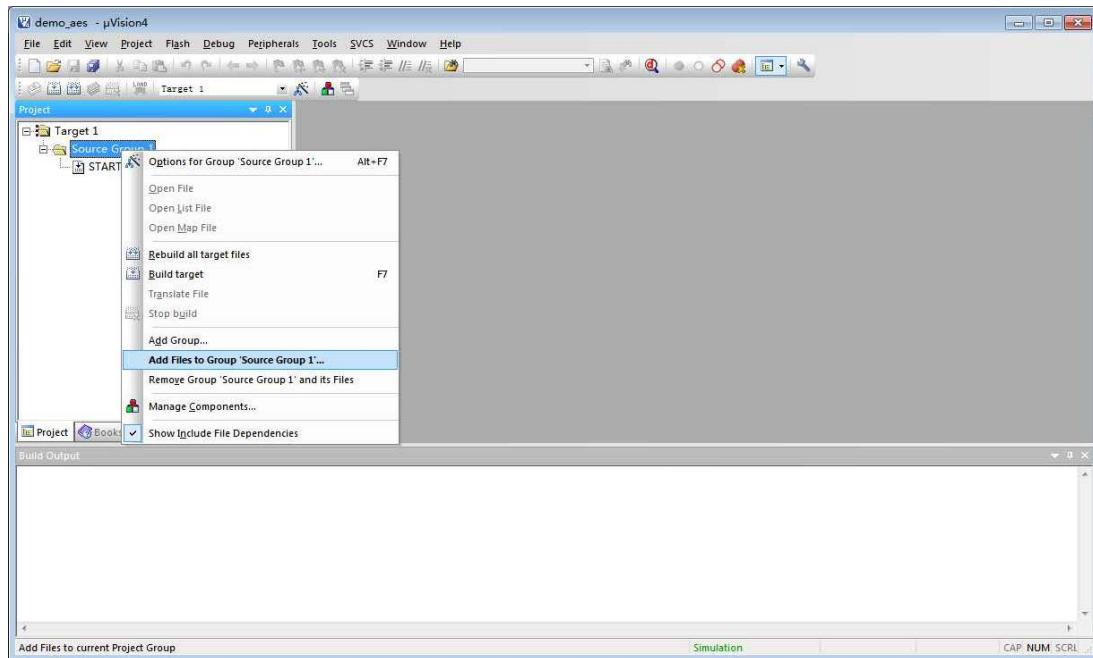

Figure 1-6. Add the Necessary Files
- Step 4: Add *system.c* and *INTERRUPT_PROTEST.a51* file to the project, as shown in Figure 1-6.